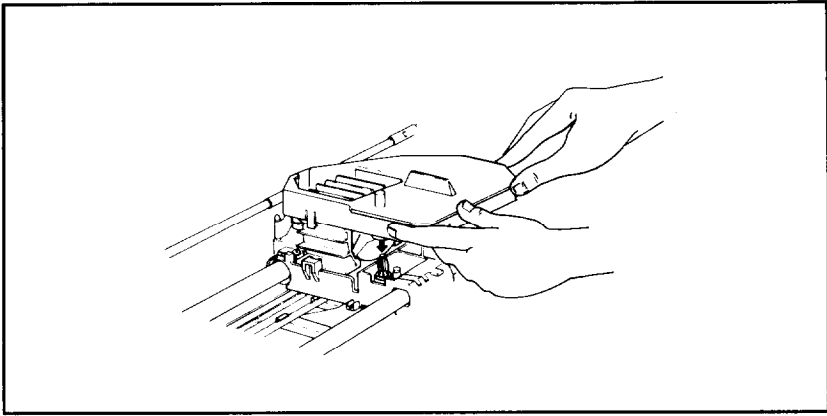

Figure 1-8. Ribbon installation
4. Hold the ribbon cartridge in both hands to position it over the print head (the hole in the ribbon cartridge fits over the finned part of the print head). The short piece of exposed ribbon must go between the print head and the ribbon guide so that the ribbon does not rest directly against the platen (see Figure 1-8) . Lower the ribbon cartridge and press the spot marked PUSH to seat the back of the ribbon cartridge first.